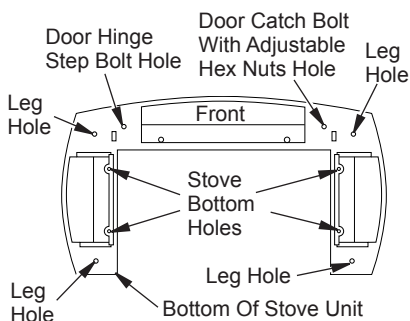
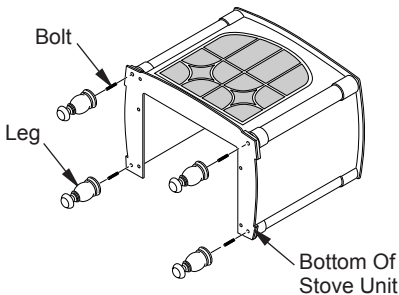

Figure 8 - Locating Threaded Holes for Stove Bottom, Legs and Door Attachment (Appearance May Vary Depending on Model)
Figure 9 - Attaching Stove Legs
8. Fasten each leg to stove with four (4) bolts. Use a flat screw driver to tighten bolt to leg. Thread bolt in tapped holes on stove body (see Figure 8 and Figure 9, page 10).
9. Fasten stove bottom to stove with four (4) M6 x 1 - 25 mm bolts. Use a flat washer and lock washer with each bolt. Tighten bolts into threaded holes on stove body (see Figure 10 and Figure 8 on page 9). Use an adjustable wrench or a 10 mm socket.
11. Install door catch bolt (M8 x 1.25-55 mm with two M8 hex nuts) into threaded hole on stove body (see Figure 8, page 9). Use an adjustable wrench or a 12 mm socket. The catch bolt has two hex nuts attached to it (see Figure 12). The top nut is a bolt stop and the bottom nut is for door leveling adjustment.